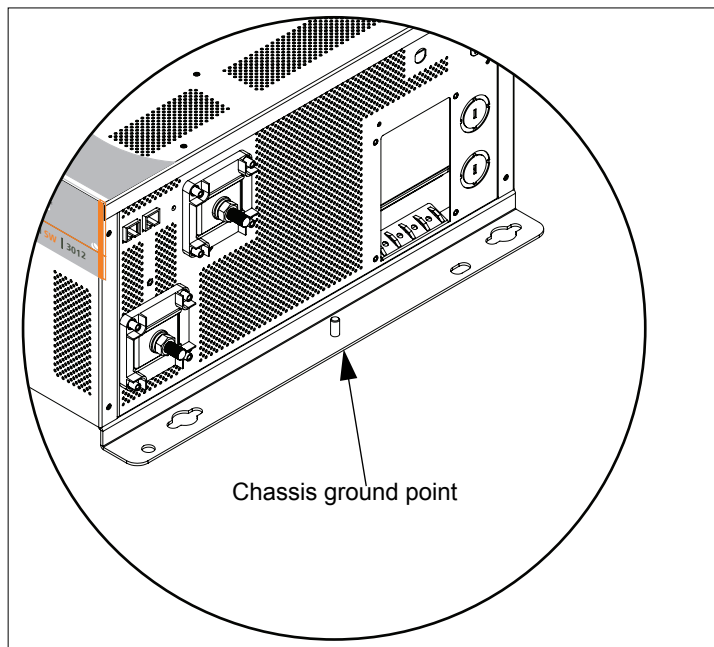

Figure 10 DC Wiring and DC Grounding
1. Using the appropriate wrench, loosen the nut on the bolt of the chassis ground point shown in Figure 10.